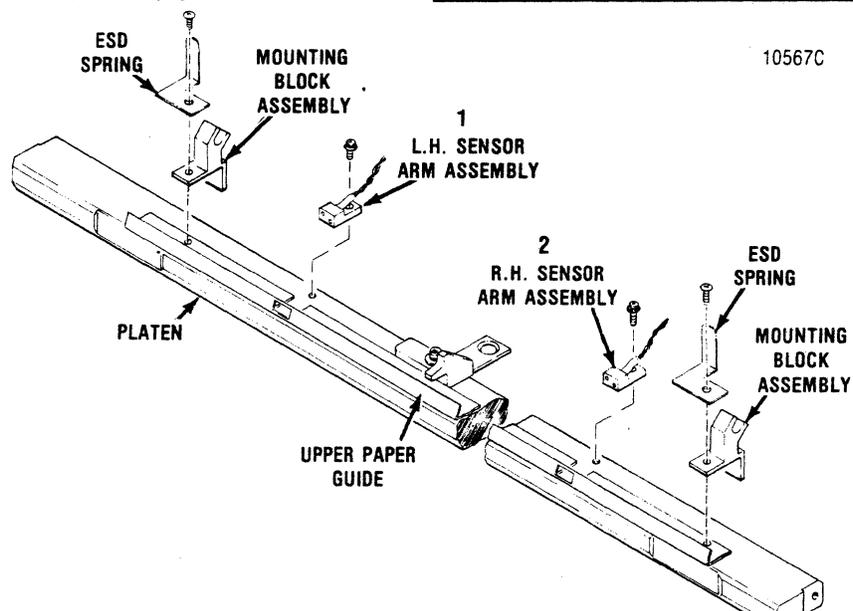

Figure 3-19 Removal/Replacement, Sensor Arm and Mounting Block Assemblies
The left-hand and right-hand sensor arm assemblies (items 1 and 2 respectively of Figure 3-19) are located on the platen assembly and are positioned to face the rectangular cut-outs on the upper paper guide assembly. To remove the sensor arm assemblies, refer to Figure 3-19 and perform the following steps:
The mounting block assemblies are used to properly position the optional three-bin sheet feeder. The mounting block assemblies, item 3 of Figure 3-19 are located on the upper paper guide and are removed using a Phillips screwdriver. To remove these assemblies, refer to Figure 3-19 and perform the following steps: